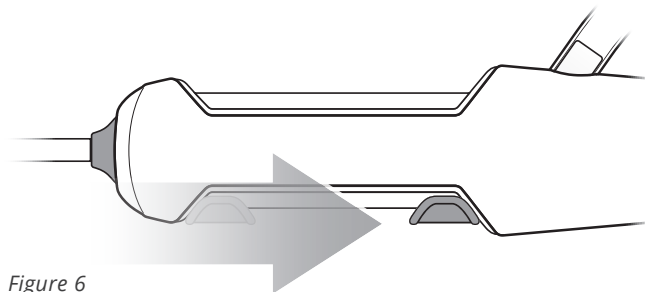

Figure 6
4. To actuate the funnel, slide the button on the handle backwards, towards the hub of the sheath until the button is locked in place (See Figure 6).